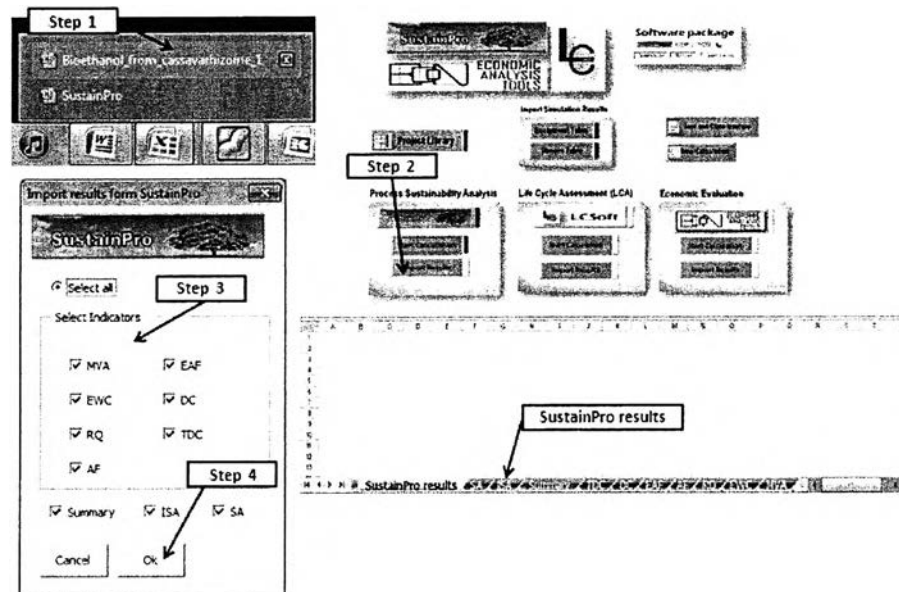

Figure B.17: Steps to perform sustainability analysis (Continued)
- Step to calculate summary results, indicator sensitivity analysis (ISA), sensitivity analysis (SA), new design (ND), sustainability metrics (SM), and safety index (SI) , see SustainPro-Manual, p 51-65.
Step 1: Open “Bioethanol_from_cassavarhizome_1” window (FigureB.17).